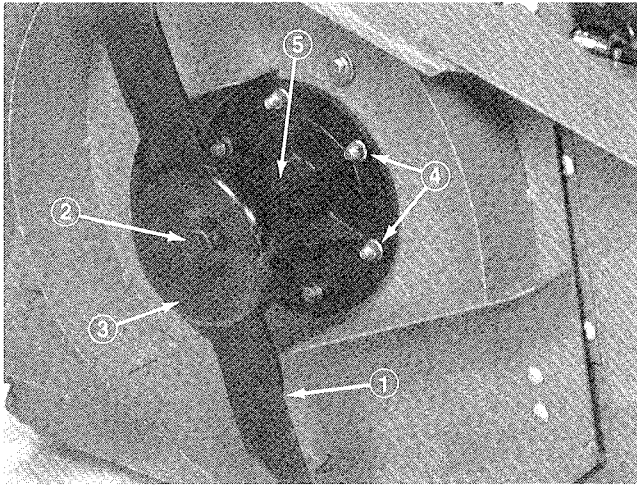

Figure 36
2. Grasp end of blade using rag or thickly padded glove. Remove special screw, lockwasher, antiscalp cup and blade from spindle assembly (Fig. 36).